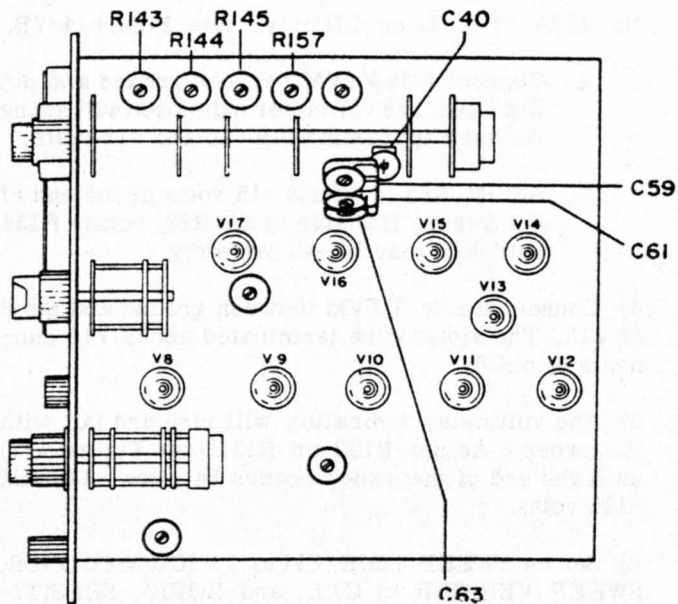

Figure 4-9A
4) Adjust C67 (C63 in Figure 4-9A) so two cycles of the sine wave are 10 centimeters long.
Skip Steps 7, 8, and 10 if Sweep Switch has configuration shown in Figure 4-9A.